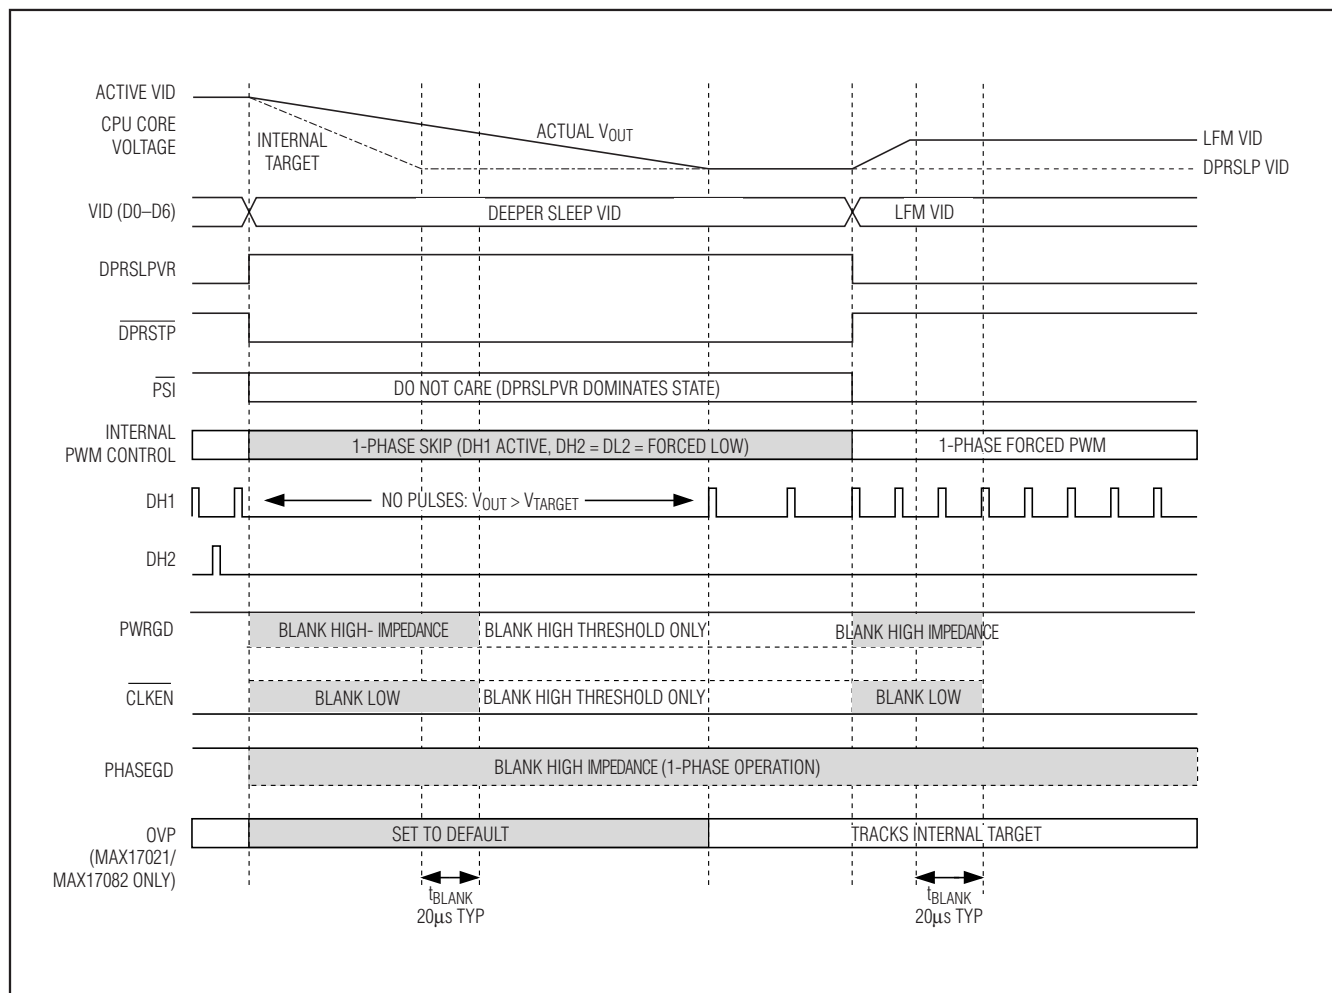

Figure 6. Standard C4 Transition
- Standard C4 Deeper Sleep Exit:** When exiting deeper sleep (DPRSLPVR pulled low) while the output voltage is regulating to the deeper sleep voltage, the MAX17021/MAX17082/MAX17482 immediately activate all enabled phases and ramp the output voltage to the LFM DAC code provided by the processor at the slew rate set by R_{TIME} . The controller blanks PWRGD, PHASEGD, and CLKEN until 20 μ s after the transition is completed. See Figure 6.